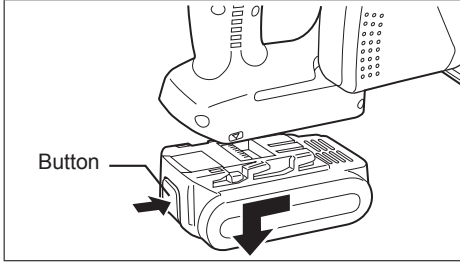

Fig. 3
- To remove the battery pack (See Fig. 3)